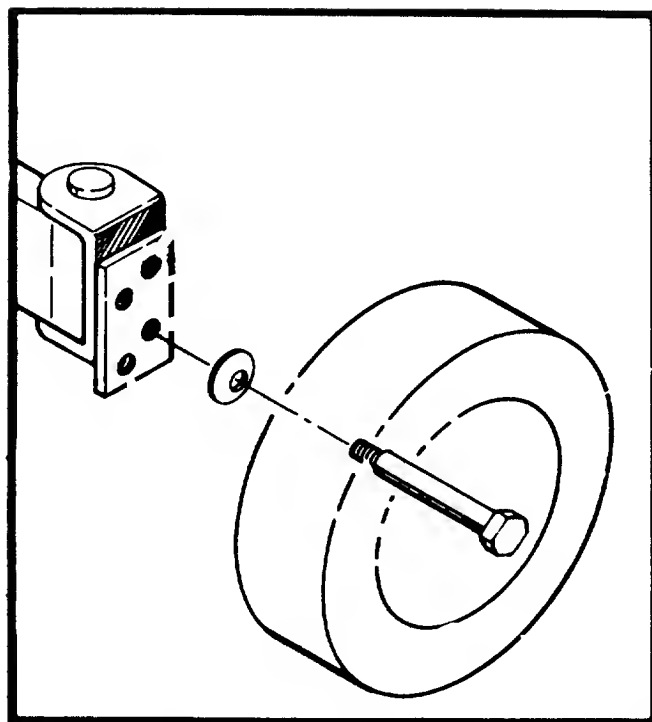

FIGURE 14. FRONT WHEEL ADJUSTMENT
1. The height adjustment for the cutting blade is made by removing the front axle bolts and moving the front wheels to one of the four cutting positions. See figure 14.